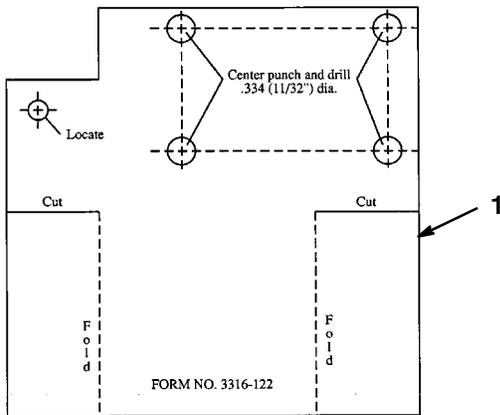

Figure 2
3. If the tractor frame does not have holes drilled, in (Fig. 2), cut out the frame hole location template and fold the tabs along the dotted lines.